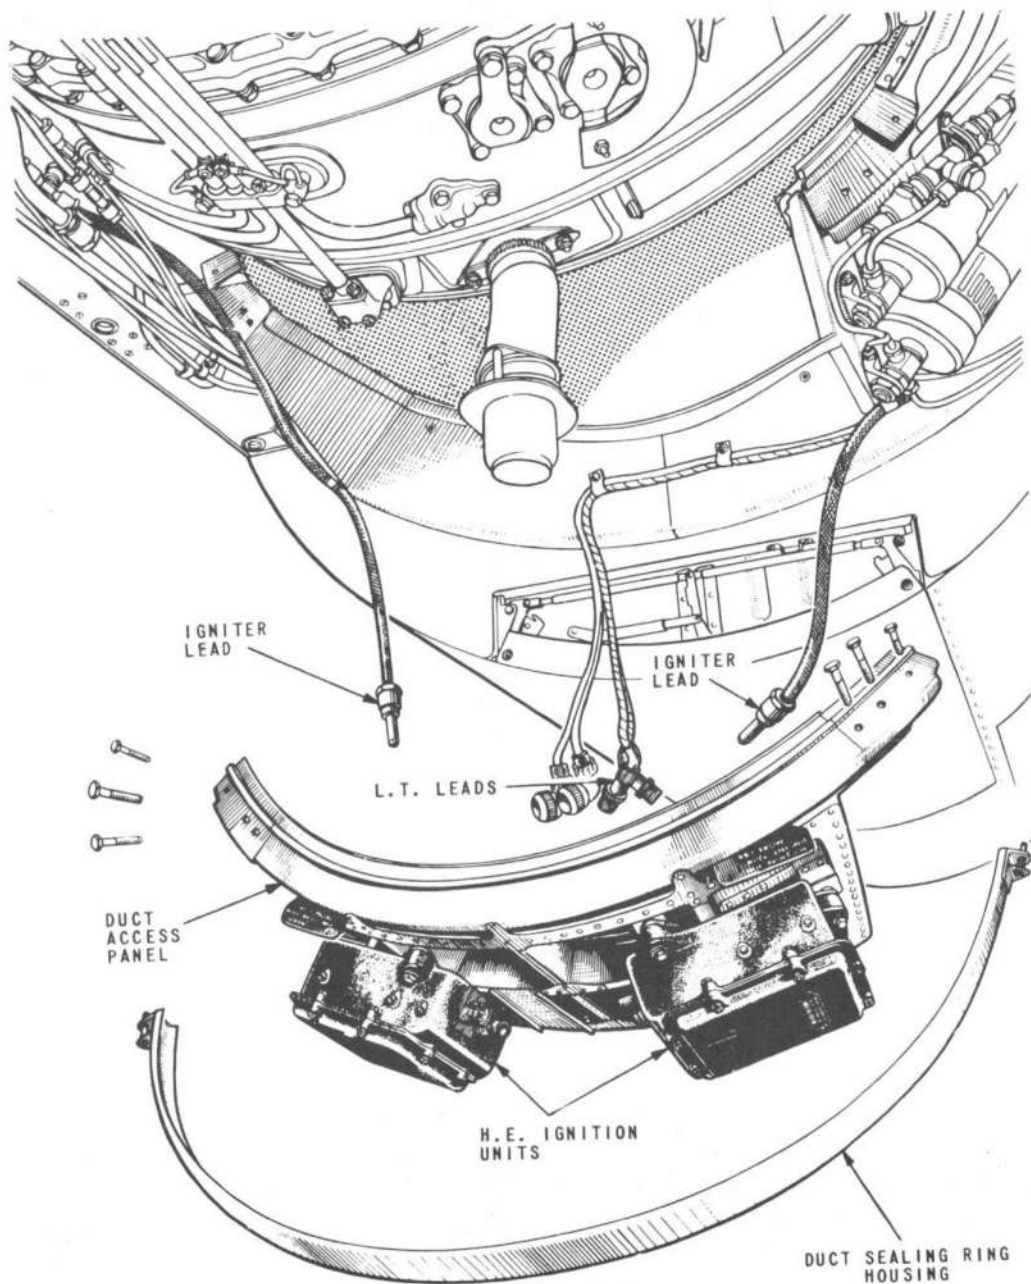

Fig.11. Duct access panel - removal and assembly
(1) Ensure that the necessary precautions (para.31) are being observed.
(2) Remove the engine hatch (Sect.3, Chap.1).
(3) Disconnect the 24-volt supply to the high-energy ignition units on the duct access panel (fig.11).
(4) Disconnect the high-tension leads from the ignition units.
(5) Remove the lower half of the air intake duct-to-engine sealing ring housing (fig.11) by unscrewing the special bolts; use the special key.
(6) Remove the duct access panel by withdrawing six bolts (fig.11).